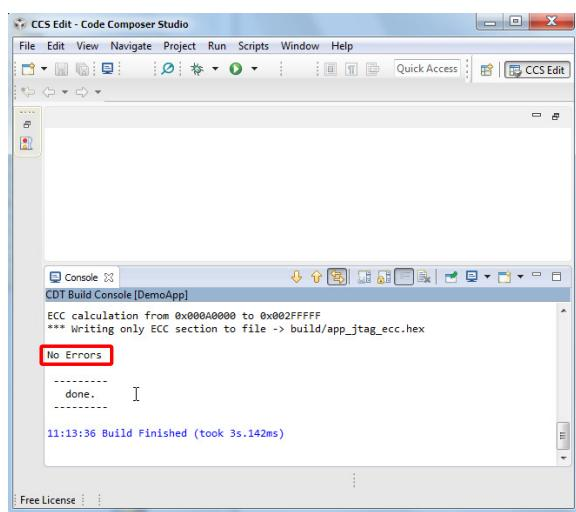

Figure 5.14: **Console** pane with successful build
5. From the menu, select **Project > Build All**. The **Console** pane opens and shows the build process (see Figure 5.14 on page 26).
6. After successful building, the **Console** pane shows **No errors** (see Figure 5.14 on page 26).